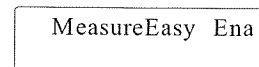

Figure 2-69
- c. Press the  key and get into the submenu. (Figure 2-69)